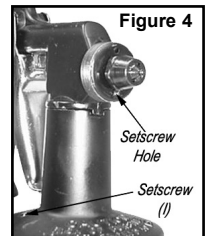
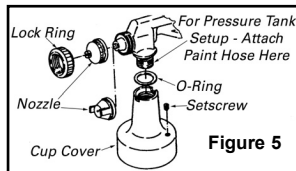

Figure 4
Figure 5
2. Remove the setscrew (I) from the cup cover.
3. Install the setscrew in the front of the gun where the nozzle was (see Figure 4).
4. Install the external mix nozzle (G) onto the end of the spray gun.
When using a pressure tank, remove the setscrew from the cup cover and put it into the front of the gun at the liquid nozzle, as you would for External Mix/Siphon Feed (see Figure 4). Remove the cup, liquid tube, cup cover and sleeve nut, then attach the paint hose (see Figure 5).